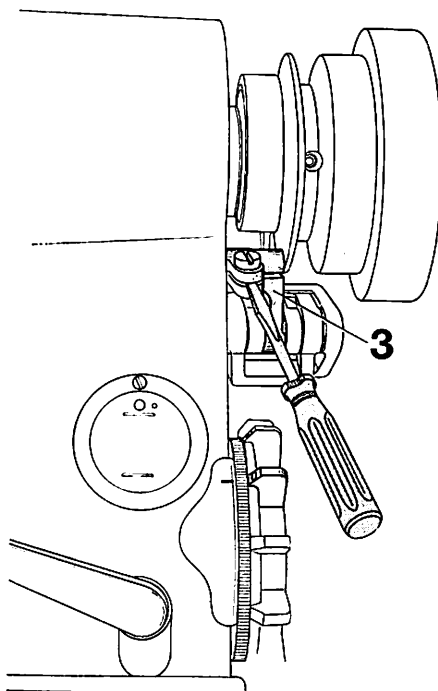

Fig. 6.0.2.
- 6.2. To facilitate zeroing the needle feed motion, insert a screwdriver in the slot of needle feed driving crank 3 (Fig. 6.0.2.).